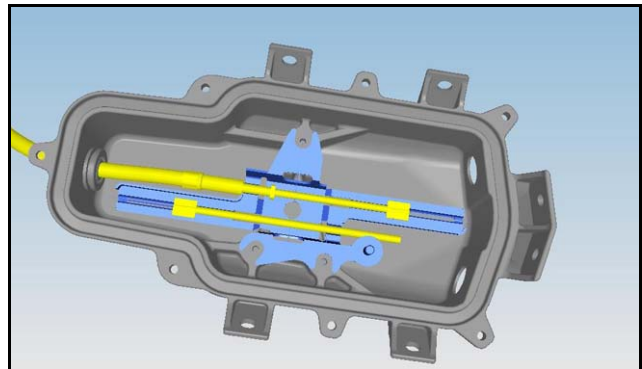

Figure 15
1. Put the latch cables in the slide bracket in the same positions recorded during removal (Refer to Figure 15).